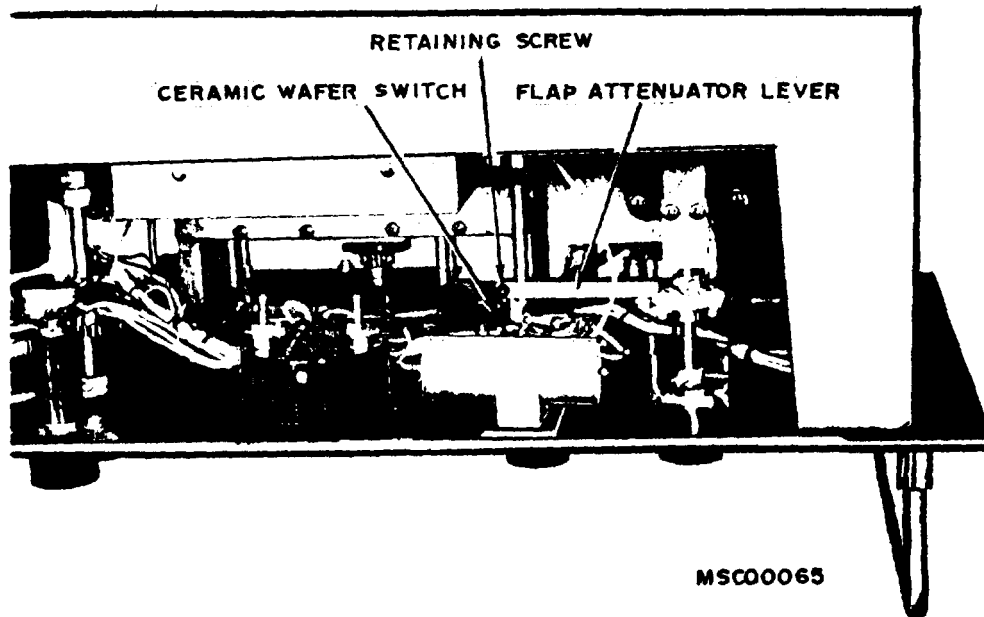

Figure 3. Test instrument - top view.
HIGH VOLTAGE exists on the ceramic wafer switch (fig. 3) in adjustment below. Exercise care to avoid touching or shorting switch.
(2) Adjust **KLYSTRON FREQ** control for a 8.5-GHz indication on dial and set **RF POWER** switch to monitor internal power.
(3) Repeat a(3) above.
(4) Set **RF POWER** switch to output power position and adjust **POWER SET** control until power meter indicates value computed in (1) above.
(5) Set **RF POWER** switch to monitor internal power.
(6) Loosen retaining screw (fig. 3) and adjust flap attenuator level (fig. 3) until **TI POWER METER** indicates **POWER SET**.
(7) Repeat (4) through (6) above until no further adjustment is required.
(8) Repeat paragraph 8 above.